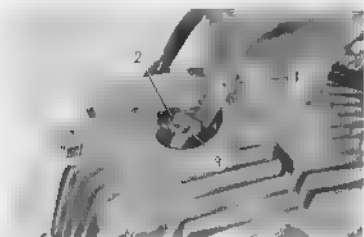

Fig. 5.3 Adjusting tappet clearance
- b. Remove the tappet adjusting caps on the cylinder head and check the clearance between the adjusting screw and the valve. (Fig. 5.3)